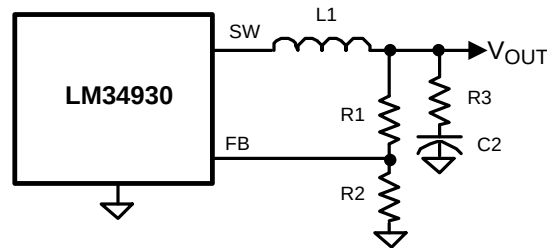
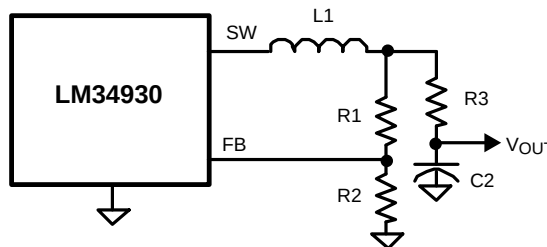

Figure 24. Basic Ripple Configuration
Figure 25. Alternate Minimum Output Ripple Configuration
b) Slightly higher ripple – In the basic configuration in Figure 24 C6 is removed and R3 is increased since the ripple amplitude from V_{OUT} to FB is attenuated by R1 and R2. The ripple at V_{OUT} is created by the inductor's ripple current passing through R3, and coupled to the FB pin through the feedback resistors (R1, R2). Since the LM34930 requires a minimum of 25 mVp-p ripple at the FB pin, the ripple required at V_{OUT} is 25 mV divided by the attenuation of the feedback resistors. The minimum ripple current ($I_{OR(min)}$) is calculated by re-arranging Equation 12 using $t_{ON(max)}$ and $V_{IN(min)}$. The minimum value for R3 is calculated from:
c) Alternate minimum ripple configuration: The low ripple alternative circuit in Figure 25 is the same as that in Figure 24, except the output voltage is taken from the junction of R3 and C2. The ripple at V_{OUT} no longer includes the ripple across R3. It is determined by the inductor's ripple current and the characteristics of C2. However, R3 slightly degrades the load regulation by effectively increasing the output resistance of the regulator. This circuit may be suitable if the load current is fairly constant. R3 is calculated as described in Alternate b above, and must be rated to carry the maximum load current.